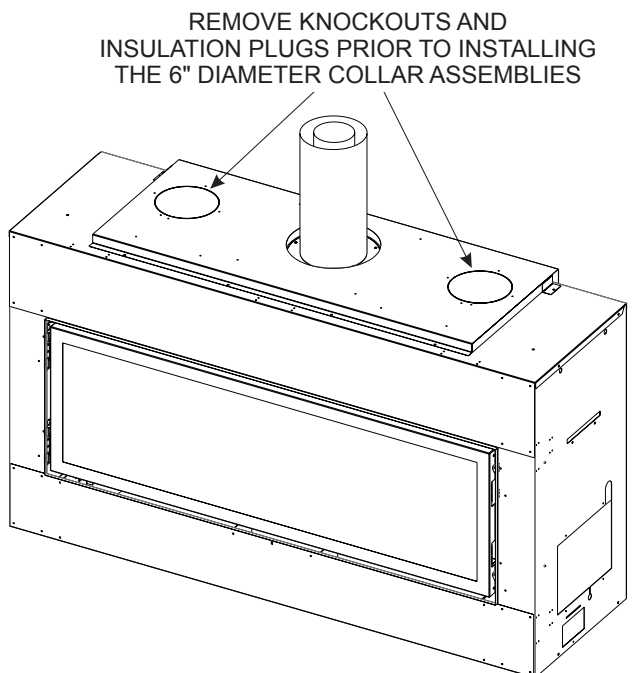

Figure 9
- Remove the (2) knockout holes on top of the fireplace that are located to either side of the vent system. Use a standard screwdriver and/or sheet metal snips to remove these knockouts. **See Figure 9**. Both vent openings must be used with the HMFA accessory.